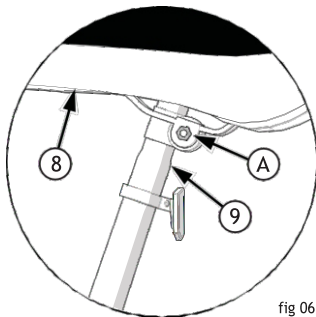

fig 06
- **If the seat moves in the Seat Clamp (A) (**fig 06**):**
- **If the Seat Post (9) moves in the Seat Tube (B):**